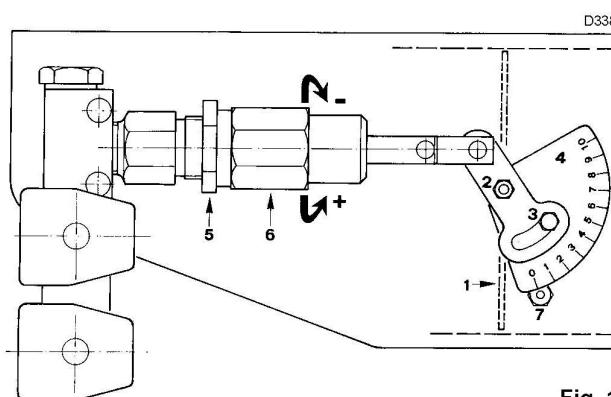

Fig. 19
The air gate valve 1)(Fig 19) is set using the indexed selector 4)(Fig 19). Loosen the screw 3)(Fig 19) and the nut 2)(Fig 19) and shift the indexed selector 4) so that the index finger 7)(Fig 19) corresponds to the required notch setting indicated in Table (I) according to the 1st stage nozzle's delivery.
The air gate valve 1)(Fig 19) must be set using the cylinder 6)(Fig 19). This setting must be adapted case by case to the burner's delivery and combustion chamber pressure. The first time the burner is fired, the hydraulic cylinder setting should be left as originally set by the manufacturer: at approximately half of its full stroke.